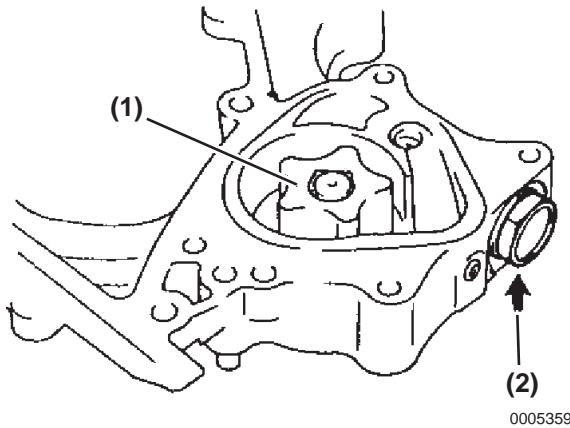

Figure 8-7
1. Remove the driven rotor (**Figure 8-7, (1)**).
2. Remove the plug, gasket, spring and relief valve (**Figure 8-7, (1)**).